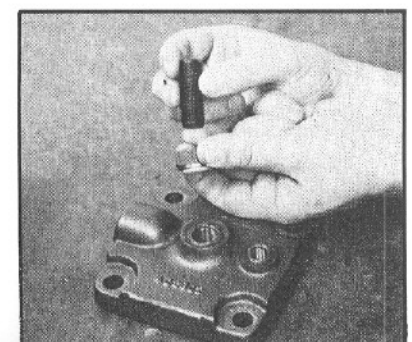

Figure 107
11. Assemble the worm shaft adjusting screw jam nut (38) onto the nonslotted end of the worm shaft preload adjusting screw (39) so that the seal on the jam nut faces the end cover (37) or closed end of the housing. (FIG. 107). Assemble one poppet valve adjusting screw (40) and jam nut (3), and the other poppet valve adjusting screw (2) and jam nut (3) in the same manner as described for parts 38 and 39. If your gear is not equipped with poppets, assemble only the worm shaft adjusting screw and jam nut.